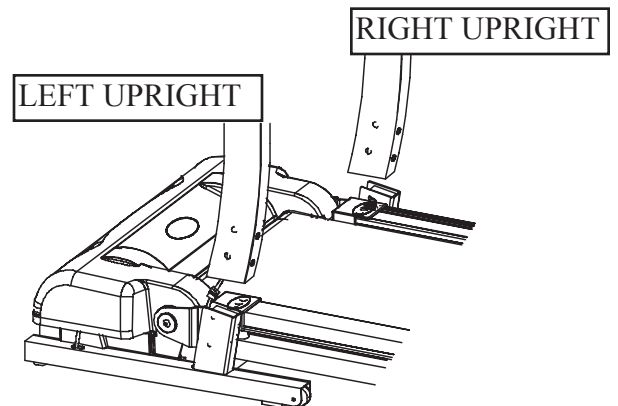

Figure 4: Left and Right Upright Installation
3. Install Left Upright and Right Upright to treadmill base frame. Refer to Figure 4.